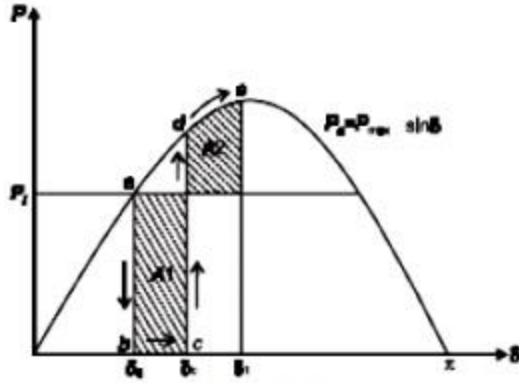

Fig. 11.10: $P_e - \delta$ characteristic.
- To reiterate, with reference to Fig. 11.10, the various angle in eqn. (11.49) are δ_c = clearing angle; δ_0 = initial power angle; and δ_1 = power angle to which the rotor advances (or overshoots) beyond δ_c .